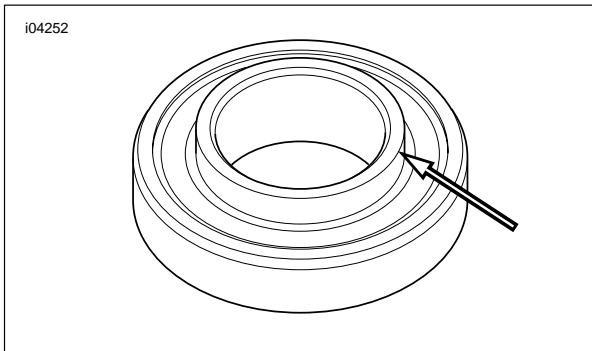

Figure 2-80. Steering Head Bearing Lip
- a. See **Figure 2-80**. Place the upper bearing squarely in the steering stem bore with the inner race lip pointing away from the steering head.